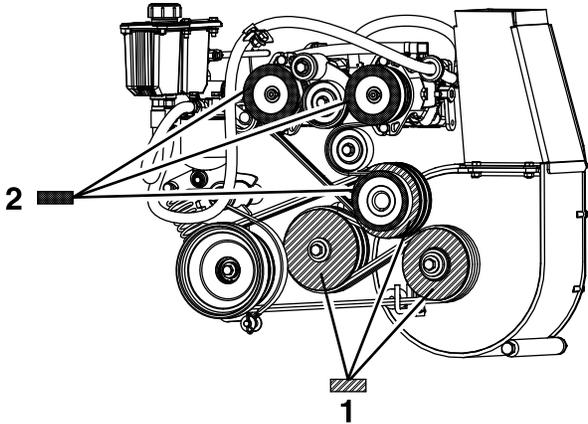

Figure 64
8. Measuring from the blower pulley as a baseline, move the engine and jackshaft until the rear surface of all 3 pulleys are aligned within 0.8 to 1.6 mm (1/32 inch to 1/16 inch) (Figure 64).
4. Using a straight edge, align each pump pulley with the engine pulley by sliding it along the pump shaft (Figure 64).